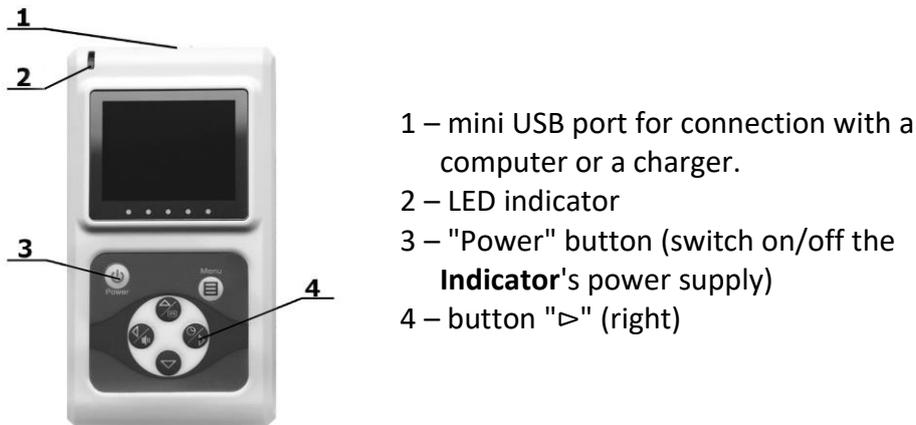

Fig. 1 Appearance of RadiaScan 501(601, 701) **Indicator**
The appearance of RadiaScan 501(601, 701) **Indicator** is on Fig. 1.
- make sure that the Indicator is switched off (if you push any button shortly, it shouldn't affect the device and if it does, please switch off the Indicator by pressing long on Power button (Fig. 1 mark 3));
- use the USB cable from the delivery set and apply the external power to the Indicator (Fig. 1 mark 1) using the charger or a computer USB port.
The red light in the LED window (Fig. 1 mark 2) will appear after several seconds from the start of the external power supply – it indicates that the charging has started. At the same time, a flashing green signal indicates that the device is powered from an external source.
It's possible to start/stop the charging by pushing long the "▷" button (Fig. 1, mark 4) while device turned off or in GAMMA mode.